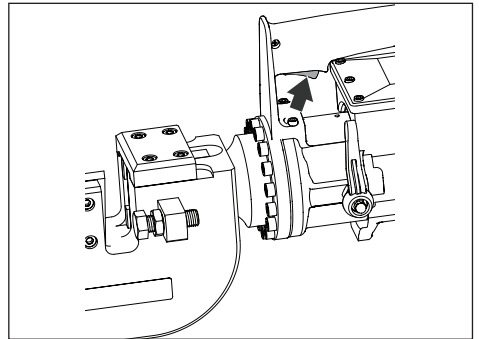

Figure 2, Trigger On-Off Switch
- Press and hold the trigger to advance the piston and slide the moving blade forward. See Figures 2 and 3.